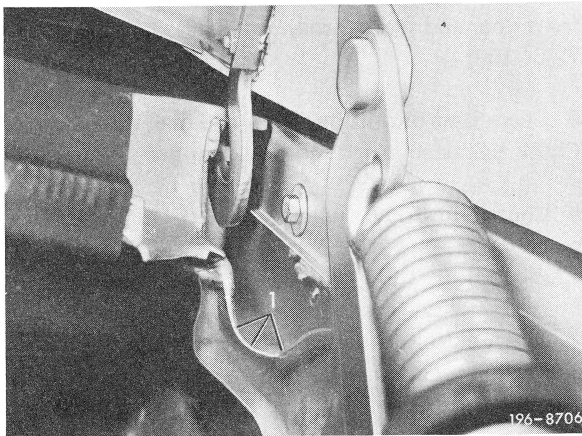

Fig. 1
- 3 Check seam (1) in hinge range of engine hood and seal, if required (Fig. 1).